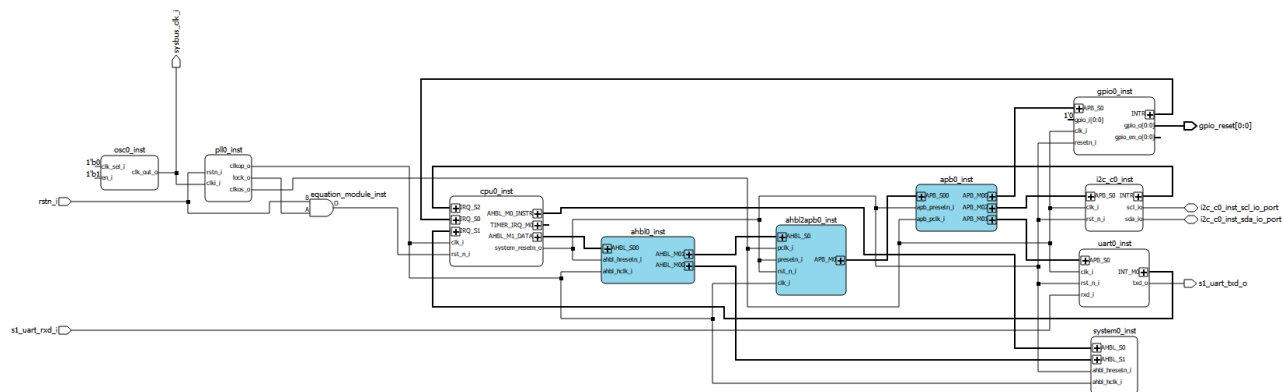

Figure C.1. Overview of the RISC-V SoC System in Lattice Propel Builder
- Lattice Propel SoC project (Figure C.1). The hardware portion of the project builds and generates the RISC-V SoC system that contains a CPU and peripherals that are instantiated in the FPGA portion of the Avant Versa board using Lattice Propel Builder.